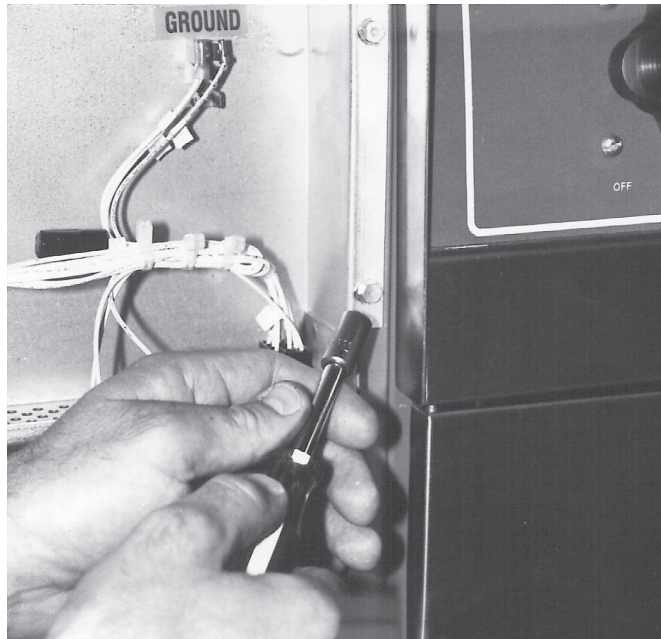

Fig. 26
3. With a $\frac{5}{16}$ " socket, remove (4) screws holding the housing to the cooker frame. (Fig. 26)